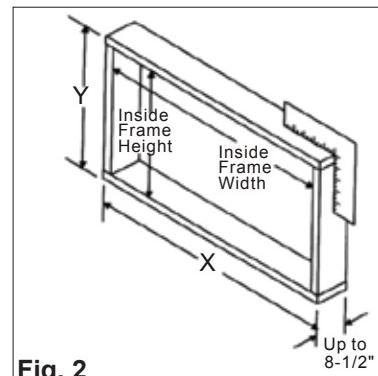

Fig. 2
3. Check your storm windows- If your storm window frame does not allow the clearance required, correct by adding a piece of wood as shown in Fig. 2, or by removing storm window while room air conditioner is being installed.
3. Locate and remove the four front screws. These screws will be needed to re-install the front panel later. (See Fig. 2.)